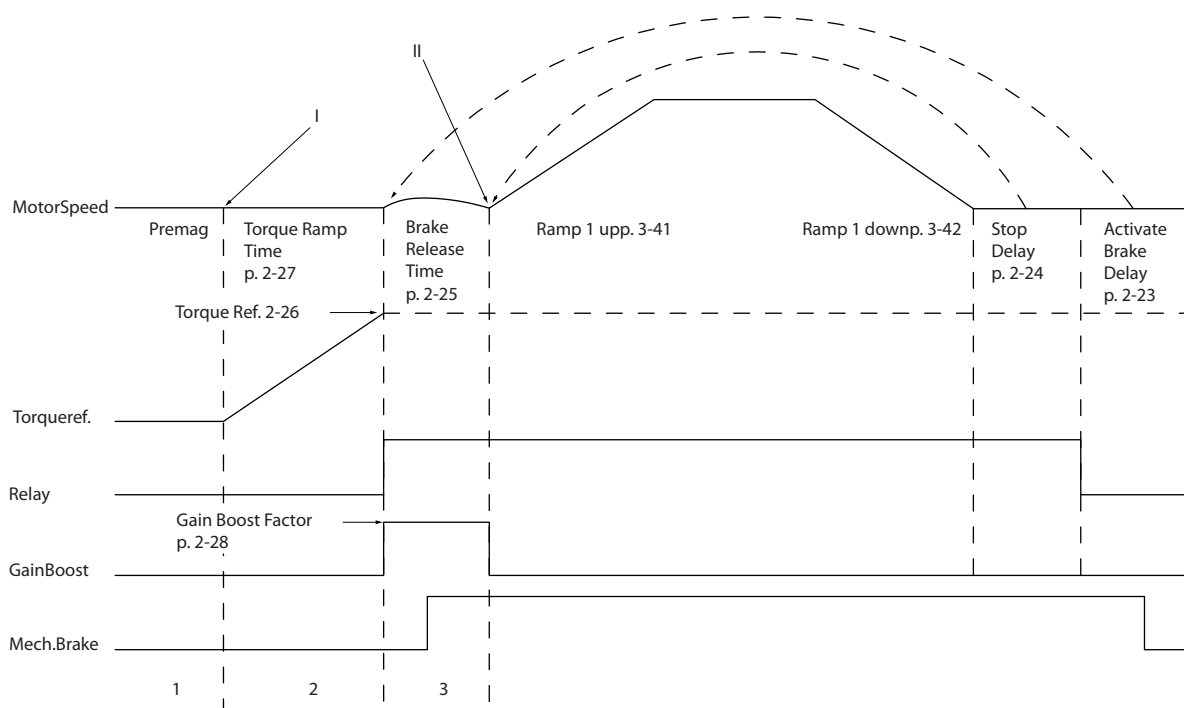

Figure 5.8 Brake Release Sequence for Hoist Mechanical Brake Control
*Parameter 2-26 Torque Ref* to *parameter 2-33 Speed PID Start Lowpass Filter Time* are only available for the hoist mechanical brake control (flux with motor feedback). *Parameter 2-30 Position P Start Proportional Gain* to *parameter 2-33 Speed PID Start Lowpass Filter Time* can be set up for smooth transition change from speed control to position control during *parameter 2-25 Brake Release Time* - the time when the load is transferred from the mechanical brake to the drive. *Parameter 2-30 Position P Start Proportional Gain* to *parameter 2-33 Speed PID Start Lowpass Filter Time* are activated when *parameter 2-28 Gain Boost Factor* is set to 0. See Figure 5.8 for more information.